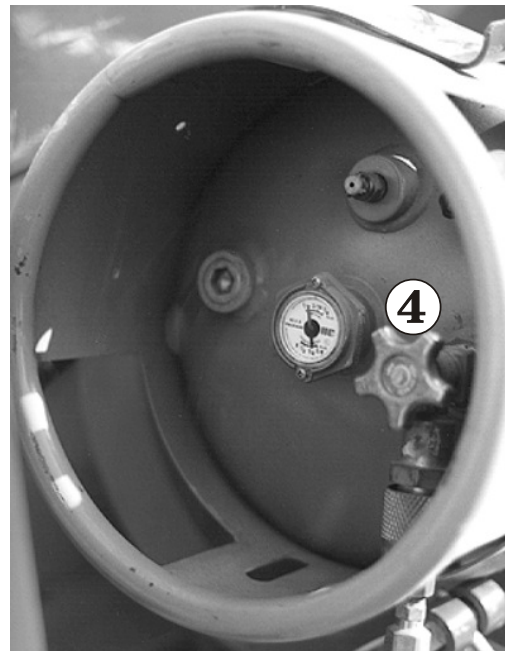

Figure 8.12
4. For LP operation: Completely open the valve **4** (see Figure 8.12) on top of the LP tank (unscrew counterclockwise until it stops).